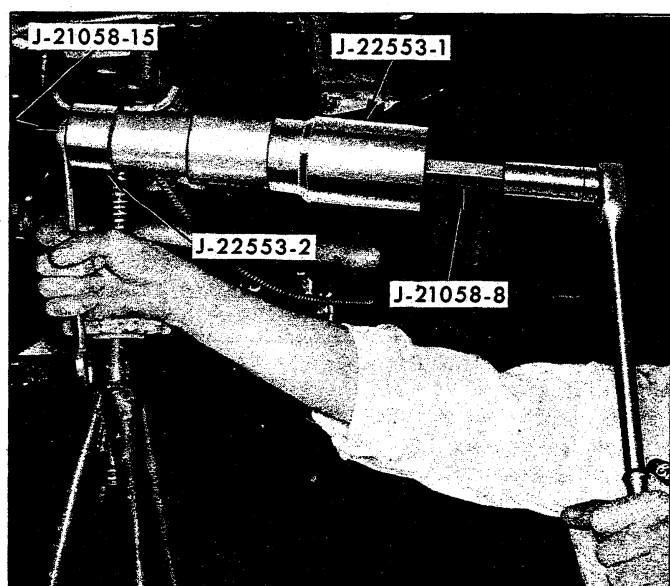

Fig. 25—Installing Spring Front Bushing (Camaro)
- f. Position installer adapter J-22553-2 over flange end of bushing then position puller screw J-21058-15 through installer adapter and bushing. Refer to Figure 25 for view of installation tools.